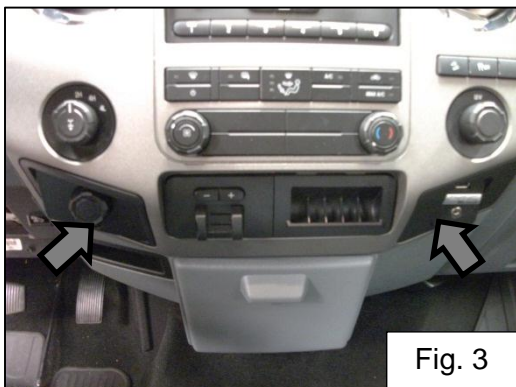

Fig. 3
7. Pry loose the accessory panels on each side of the radio bezel, disconnect wiring. Fig. 3